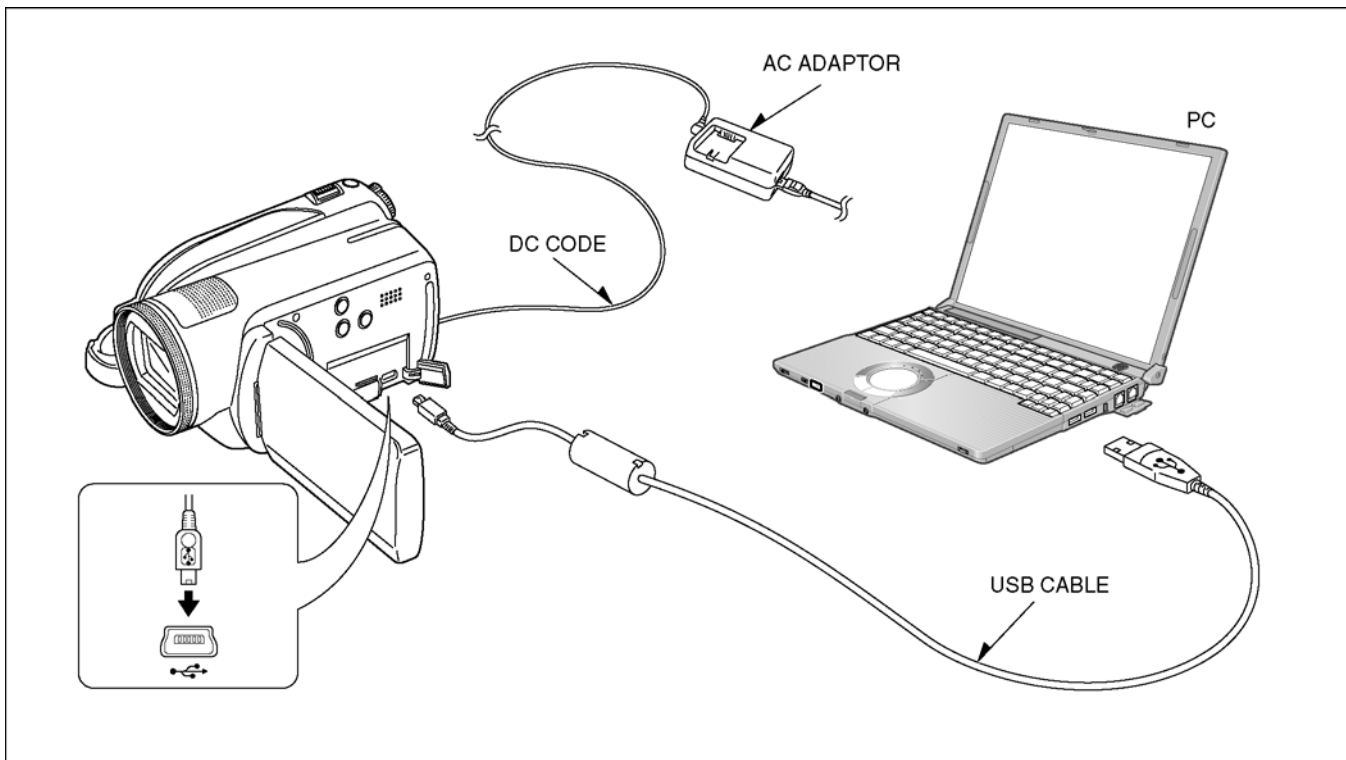

Fig. E1
- b. Connect the PC and High Definition Video Camera as shown in Fig. E1 and E2.